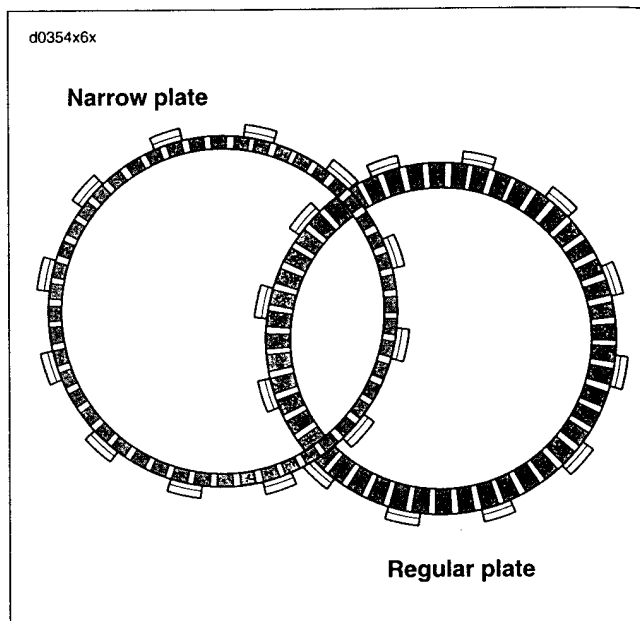

Figure 6-17. Friction Plates
1. See Figure 6-17. Install the narrow friction plate on the clutch hub. Engage tabs on plate with slots in clutch shell.